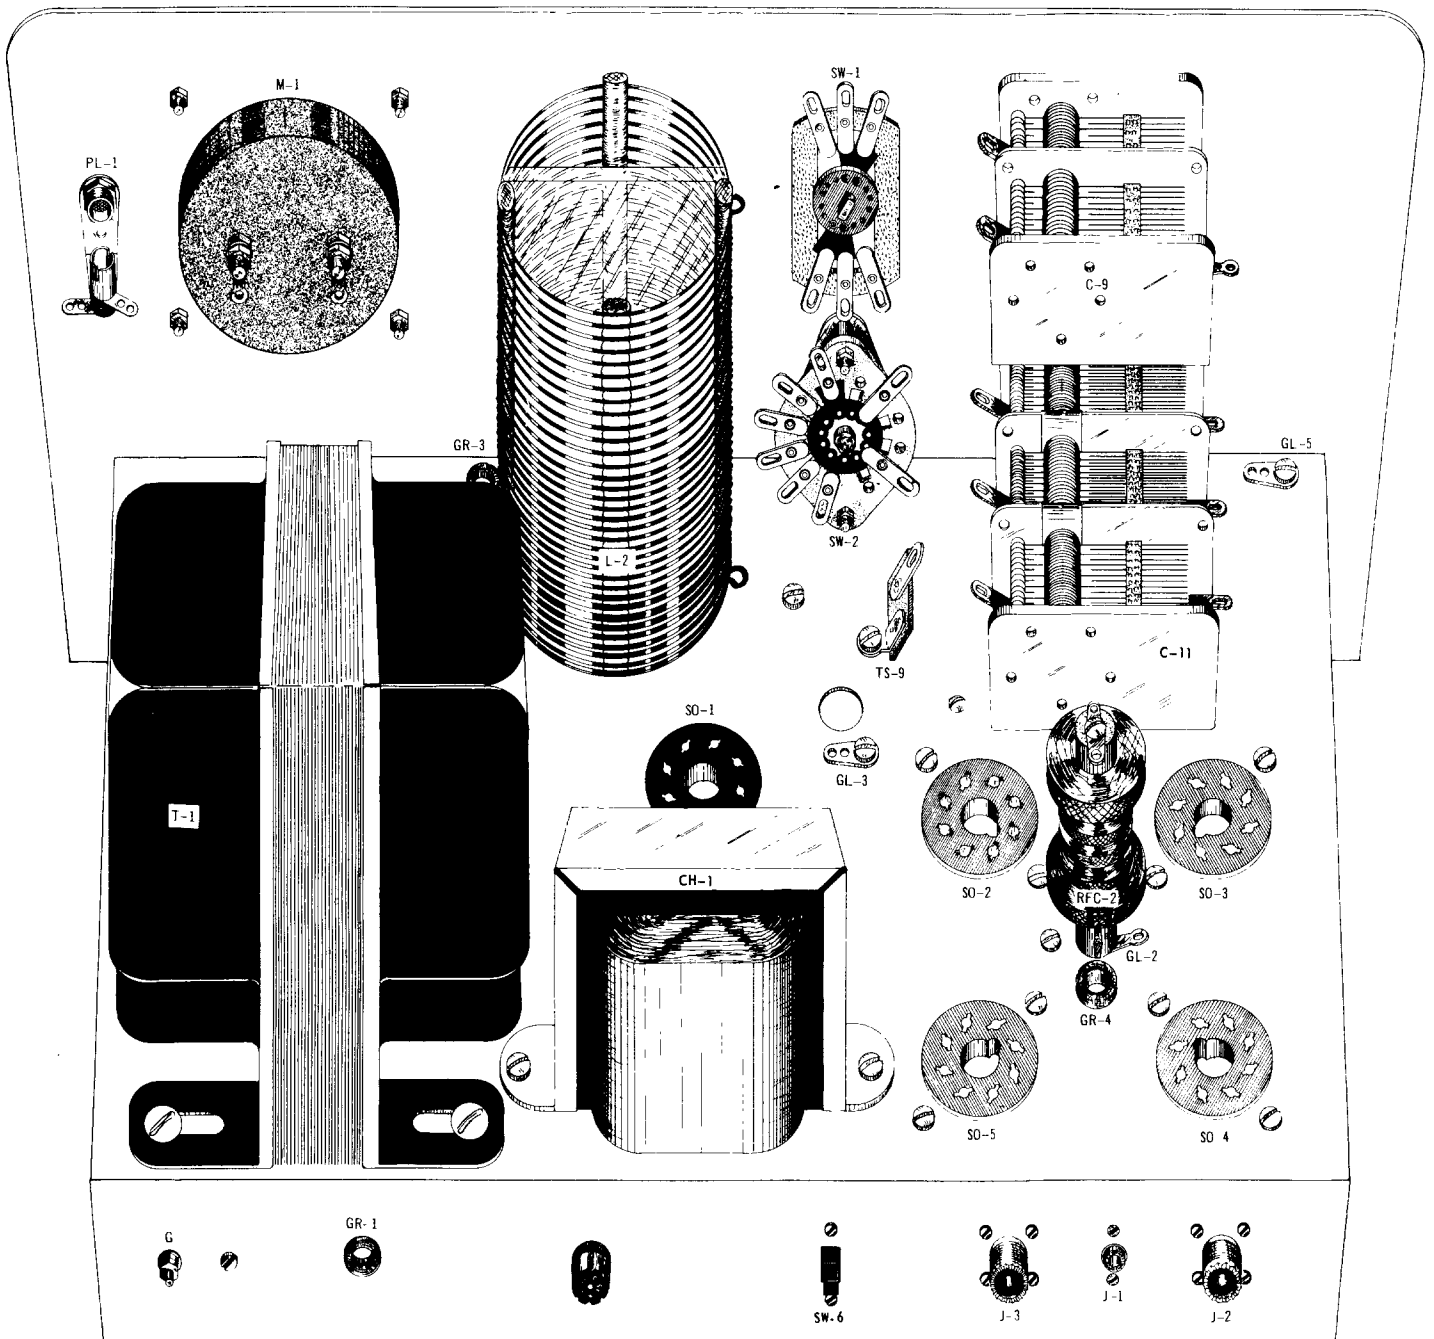
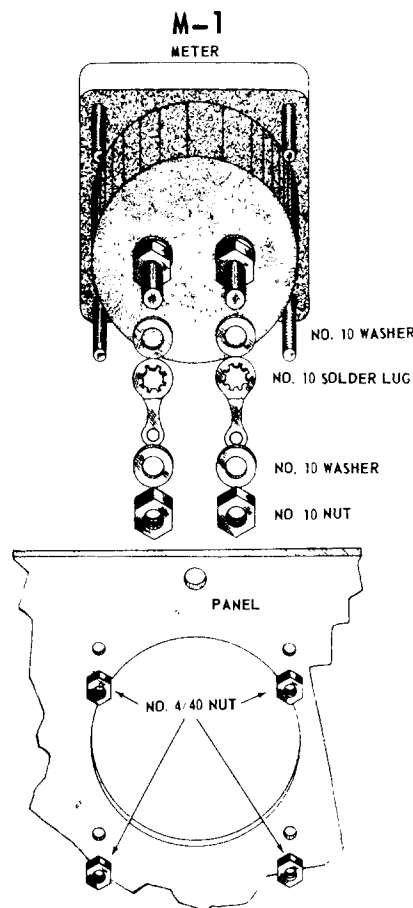

Figure 5. Top View, Parts Mounting.
Figure 7. Meter Mounting Detail.
(d) Thread the R.F. choke on the screw. Position the choke and grounding lug as per Figure 5.
26. Mount the #6 grounding lug GL-3 on top of the chassis as per Figure 5. Use a 6-32x5/16" screw, a #6 lockwasher and a 6-32x1/4" hex nut. Tighten securely.
27. Mount the #6 grounding lug GL-5 on top of the chassis as per Figure 5. Use a 6-32x5/16" screw, a #6 lock-
28. Mount the 1-lug tie strip TS-9 on top of the chassis, position as per Figure 5. Use a 6-32x5/16" screw, a #6 lockwasher and a 6-32x1/4" hex nut. Tighten securely.
29. Mount the three-gang variable capacitor C-11 on top the chassis. Position as per Figure 5. In this step, only the bottom front mounting screw is installed to hold C-11 in place. Use a 6-32x1/4" screw and a #6 lockwasher. Tighten securely.
36. Mount the coil L-2 on top of the chassis. Position as per Figure 5. Use two each 6-32x5/16" screws, #6 lockwashers and 6-32x1/4" hex nuts. Tighten securely.
(e) Position the two solder lugs as per Figure 5 and tighten the #10 hex nuts securely. Refer to Figure 7 for Meter Mounting Detail.
(e) Position the switch as per Figure 5 and tighten securely.
- (f) Position the switch as per Figure 5 and tighten securely.
- (d) Thread the hex nut on the threaded shank of the jewel, position the pilot light assembly as per Figure 5. Tighten securely.
42. Mount the variable capacitor C-9 on the panel with two each 6-32x3/16" screws and #6 lockwashers. Tighten the screws securely. Refer to Figures 5 and 11.